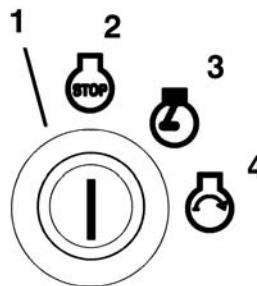

Figure 14
2. Turn the ignition key clockwise to the run position (Figure 14). The glow plug light will turn on.
4. Turn the ignition key to the off position (Figure 14). Wait for all moving parts to stop before leaving the operating position.